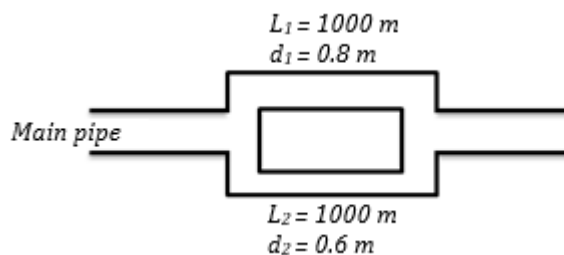

Figure 5
20. The main pipe into parallel pipes which again forms one pipe as shown in figure 5. If the total rate of flow for the main is 2 m³/s, find the rate of flow in each parallel pipe.